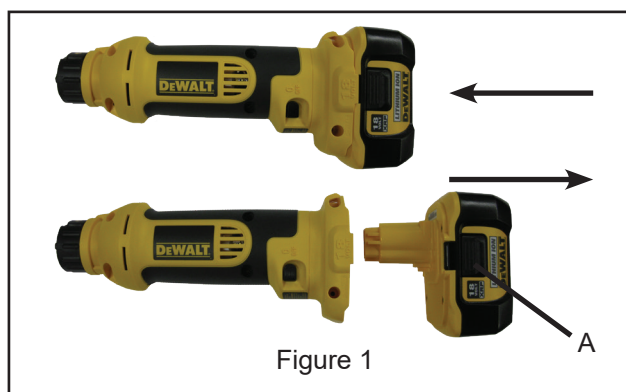

Figure 1
**To install the battery pack into the tool handle,** align the base of the tool with the notch inside the tool's handle (Fig. 1) and slide the battery pack firmly into the handle until you hear the lock snap into place (Fig. 1).
**To remove the battery pack from the tool,** press the release buttons (A) and firmly pull the battery pack out